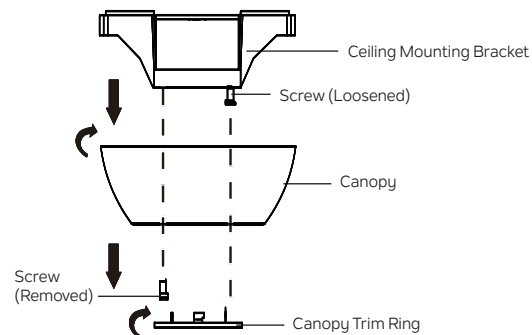

Fig. 5
Step 1. Remove the canopy trim ring from the canopy by turning the canopy trim ring counterclockwise. **(Fig. 5)**
Step 2. Remove the canopy from the ceiling mounting bracket by loosening the screw in the keyhole slot by a half turn, removing (and saving) the screw from the round hole, then rotating the canopy (counterclockwise). **(Fig. 5)**
Step 3. Align the remaining circular hole in the canopy with the remaining hole in the ceiling mounting bracket. Reinstall the screw that was removed earlier **(HANGING THE FAN: Page 9, Step 2, Fig. 5)** into the aligned holes. Tighten both screws to secure. Attach the canopy trim ring to the screw heads by carefully raising the canopy trim ring up to the canopy (placing the keyhole slots in the canopy trim ring over the screw heads on the canopy) then rotating the canopy trim ring until it locks in place against the screws at the narrow sections of the keyhole slots to secure.